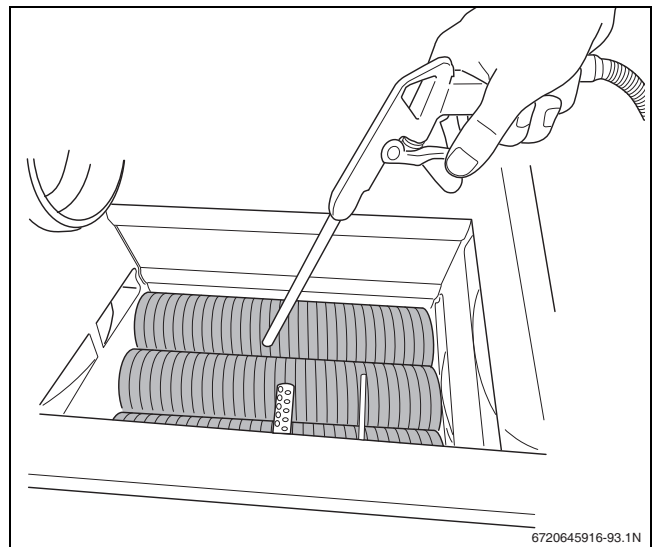

Fig. 96 Cleaning the heat exchanger
- Clean the heat exchanger with compressed air or a soft brush (→ fig. 96).